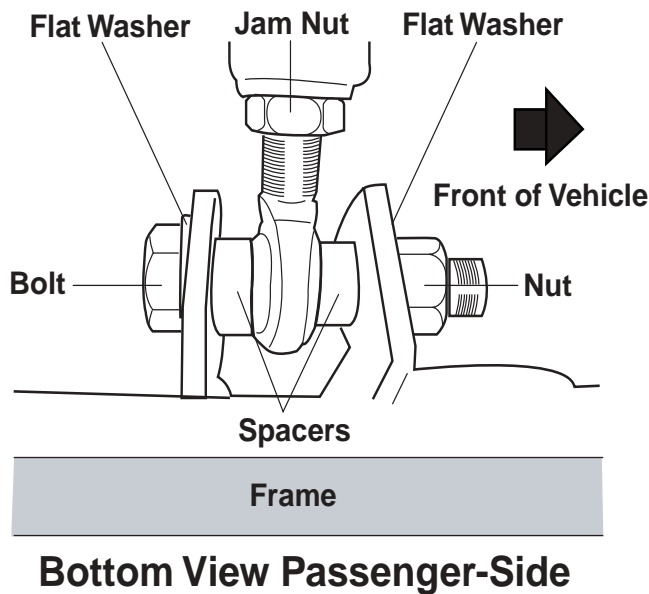

Figure 12
- Attach the heim to the passenger side frame bracket. Refer to Figure 12 for an installation diagram. Tighten both ends of the panhard rod securely.